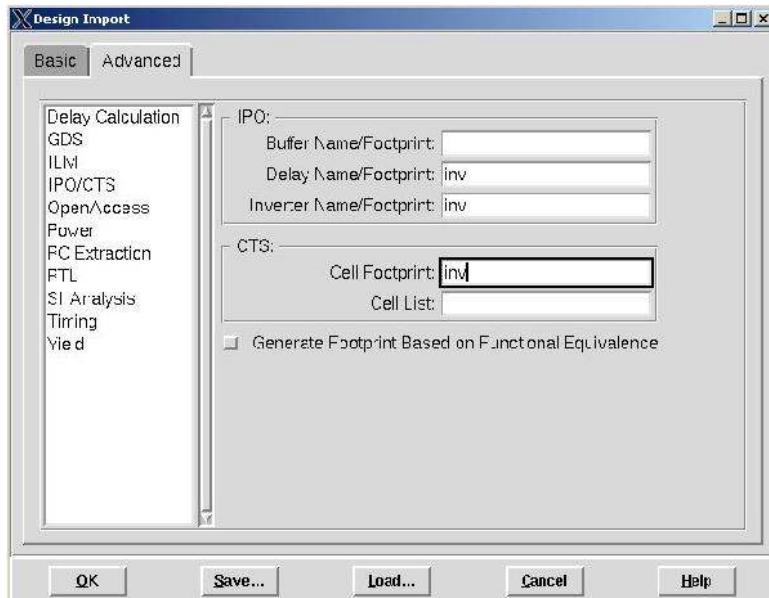

Figure 10.6: Design Import IPO/CTS tab
**IPO/CTS:** This tab provides information for the **IPO** (In Place Optimization) and **CTS** (Clock Tree Synthesis) procedures by letting **SOC Encounter** know which buffer and inverter cells it can use when optimizing things. Enter the name of the footprints for buffer, delay, inverter, and CTS cells. Leave any blank that you don't have. I'm entering **inv** as the footprint for delay, inverter, and CTS, and leaving buffer blank as shown in Figure 10.6. Your library may be different.